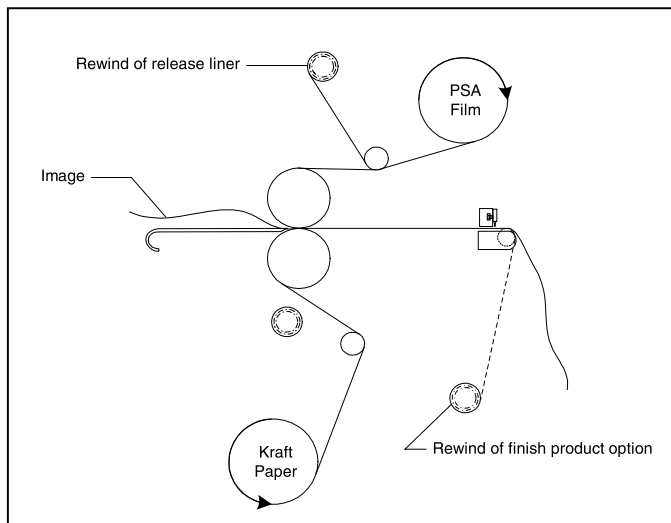

Fig. 31
#### TIPS FOR SINGLE SIDED LAMINATION (Figure 31)
1. Load the laminator as illustrated in Figure 31.